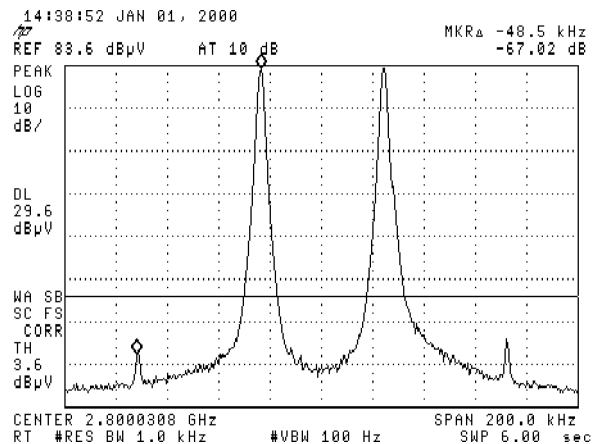

Figure 2-55. Third Order Intermodulation Distortion, HP 8596EM
44. The third-order intermodulation distortion products should appear 50 kHz below the lower frequency signal and 50 kHz above the higher frequency signal. Their amplitude should be less than the display line. See Figure 2-55.
The third-order intermodulation distortion products should appear 50 kHz below the lower frequency signal and 50 kHz above the higher frequency signal. Their amplitude should be less than the display line. See Figure 2-55.